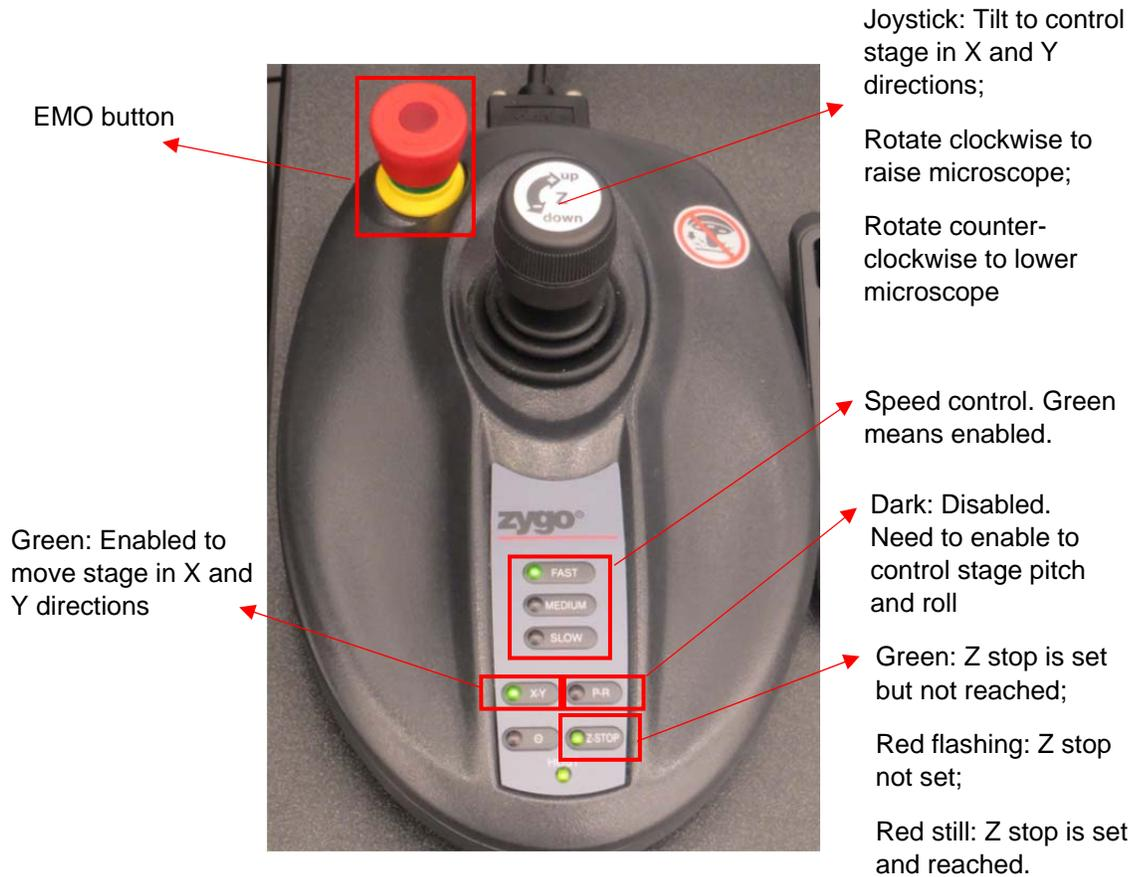

Figure 2
1. Use the joystick (Figure 2) to raise the microscope by turning its handle clockwise. Raise it high enough to load you sample.
4. Use the joystick to lower the microscope to about 2 cm above the highest surface of your sample. You can choose either Fast or Medium speed by pressing the corresponding button (Figure 2).
5. Set up the Z-stop. Continue to lower the microscope using Medium speed to a position which is about 5 mm above the highest surface of your sample. Press the Z-stop button twice to set up a new Z-stop position for your sample. When it is set, the LED light on the Z-stop button (Figure 2) should be red and NOT flashing. Raise the microscope little bit, the LED light should turn to green. Note: this step is very important to avoid having the lens to contact your sample, which will damage the lens. Always set a new Z-stop after changing samples.